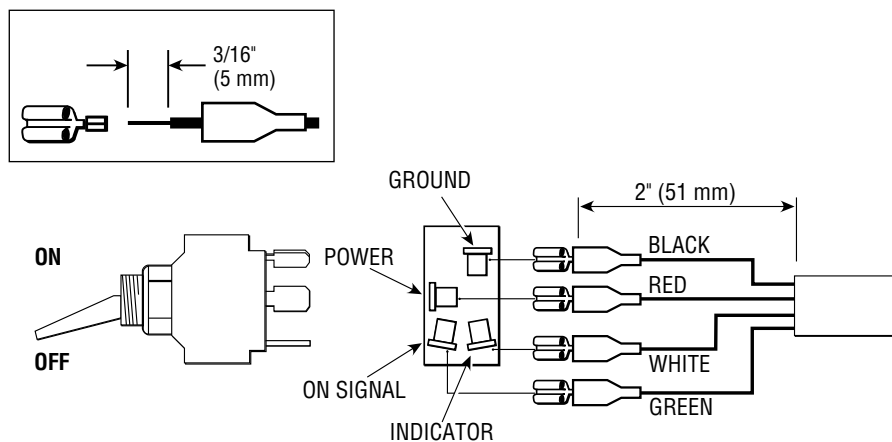

Figure 2-30. ON/OFF Switch Connections.
6. Connect the terminals to the switch as shown. (Figure 2-30.)